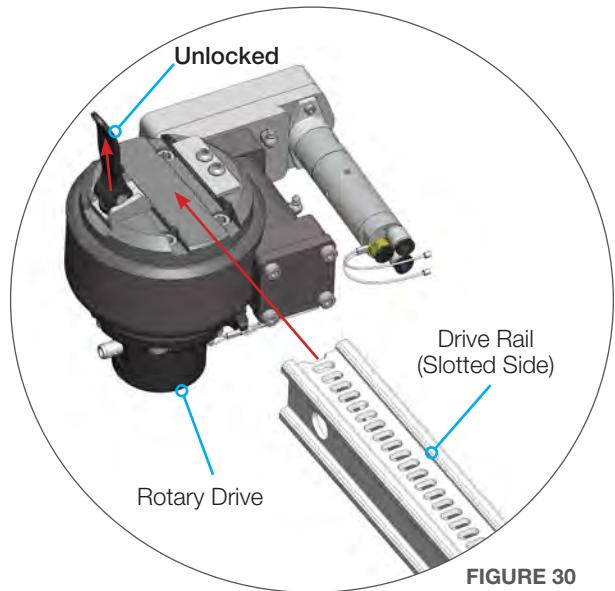

FIGURE 30
9. Unlock the Rail Clamp Handle on the Rotary Drive and slide the Drive rail into the Rail Clamp. Push the Handle down to lock the Rail in place. **(Figure 30)**